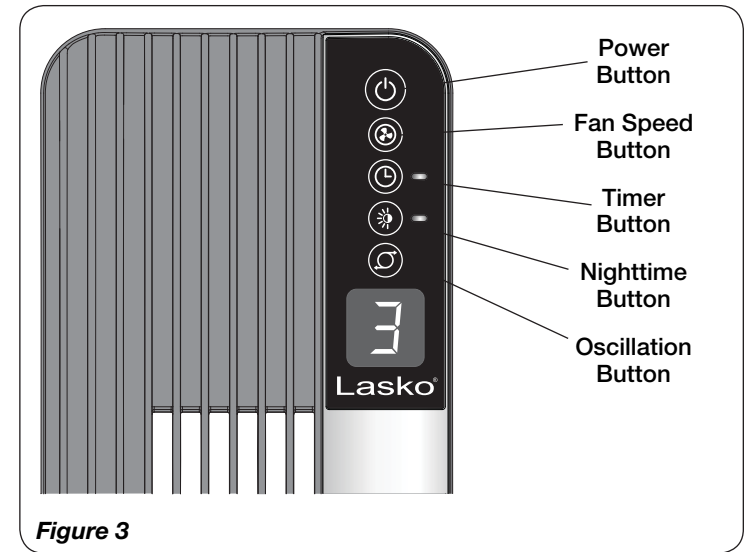
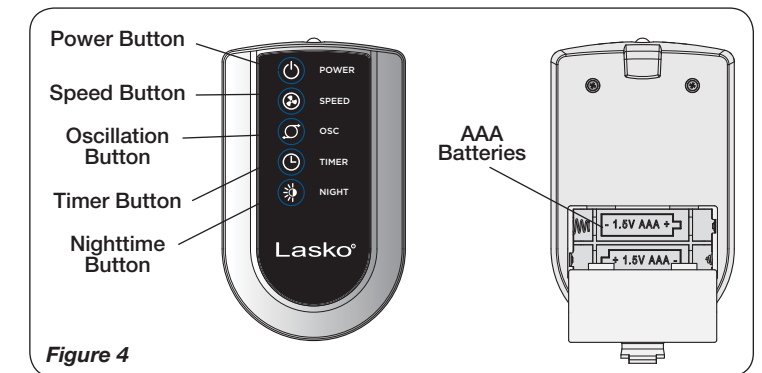

Figure 3
Figure 4
This Fan may be operated by the Manual Controls located on front of the unit (Figure 3) or by the Remote Control (Figure 4).
1. Install two "AAA" batteries (not included) as shown in Figure 4.